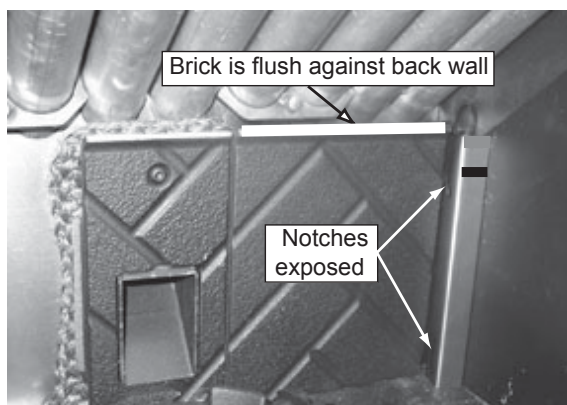

Figure 20.5
2. The brick will be flush against the back wall and notches exposed in the side bracket. **Figure 20.5.**